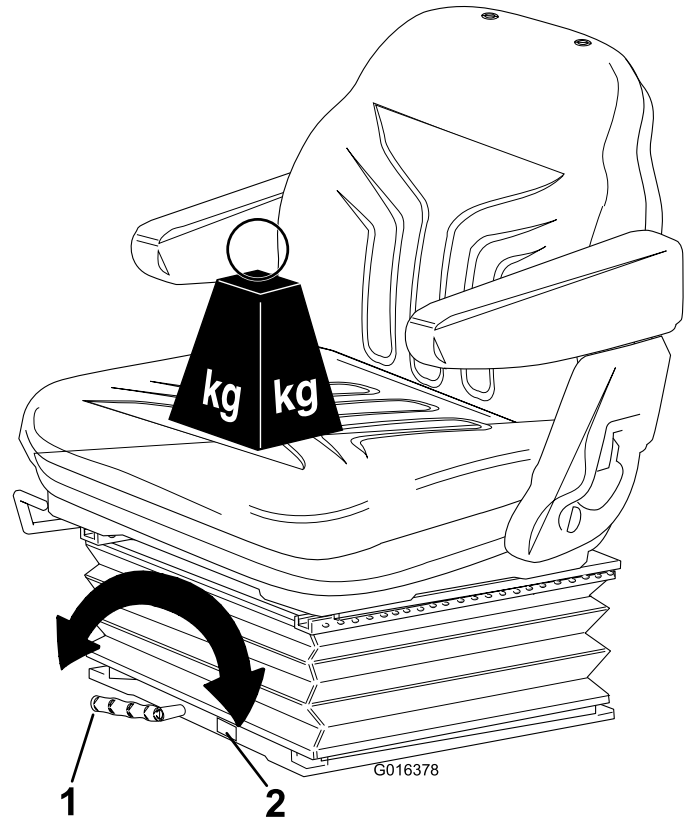

Figure 13
- **Operator weight adjustment:** Rotate the handle clockwise to increase suspension stiffness and counterclockwise to decrease the stiffness. The dial indicates when the optimum suspension adjustment has been set according to operator weight (kg); refer to Figure 13.